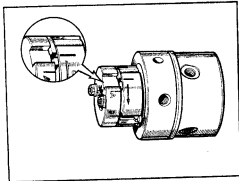

Fig. 18 - Pumping and distributing rotor alignment marks
7. Fit the top adjusting plate and drive plate as shown in Fig. 18.